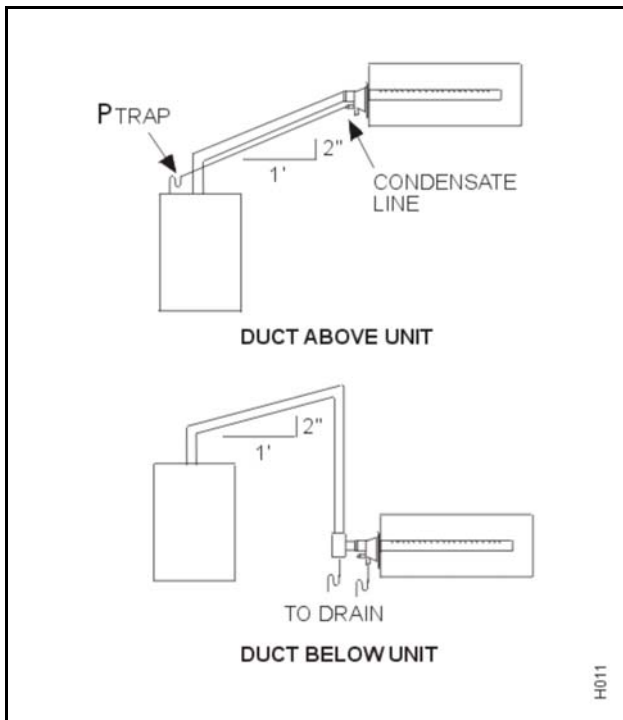

Figure 5. Proper Slope
- (1) Steam runs between the humidifier and the distributors can be accomplished by using flexible NORTEC steam hose or insulated copper pipe. The longer the steam run, including elbows, the lower the efficiency of the system. The more elbows and turns, the higher the losses become. The humidifier should be as close as possible to the distributor and the steam run should be as direct as possible.
- (2) Guidelines for installation are:
- (d) Ensure that no condensate produced in the steam line will remain trapped. Steam naturally flows upward and condensate naturally flows downward. Always slope the steam run towards the steam source at a 15° pitch no more (See Figure 5.).